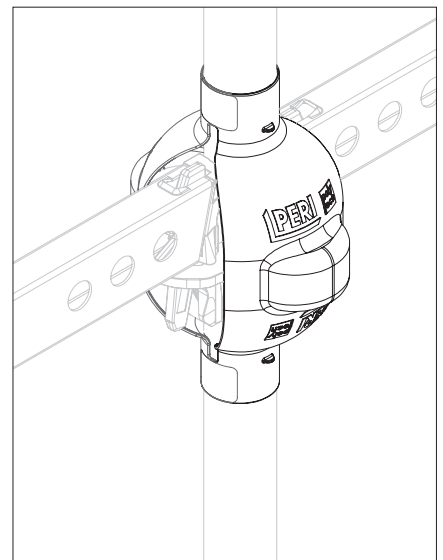

Fig. A16.03b
3. If ledgers are arranged longitudinally: fit Poly Cover UPC-C on both sides. (Fig. A16.03b)